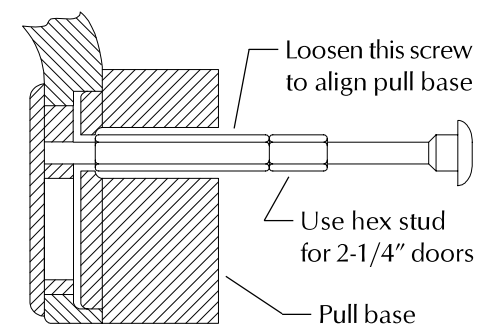

Figure 3. Tighten thru bolt in pull base.
- D. Tighten thru bolt in bottom pull base (see Figure 3, other side).